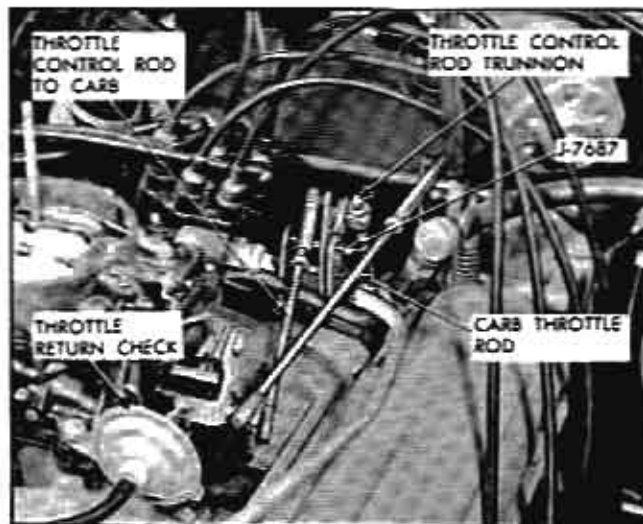

Fig. 41 Linkage Pin Installed
2. Loosen both nuts at transmission throttle control rod trunnion (Fig. 41).
4. Shut off engine and install linkage adjustment pin J-7687 through holes in throttle control lever and bracket (Fig. 41).
5. With throttle valves fully closed, loosen lock nut and adjust length of transmission throttle control rod to carburetor (Fig. 41) so that gauge pin is free
7. While holding throttle control rod to transmission in this position, tighten upper and lower trunnion lock nuts finger tight (Fig. 41). Shorten throttle control rod to transmission by backing off lower trunnion nut $2\frac{1}{2}$ turns and tighten upper nut securely. Remove gauge pin.
8. Loosen lock nut on carburetor throttle rod (Fig. 41).